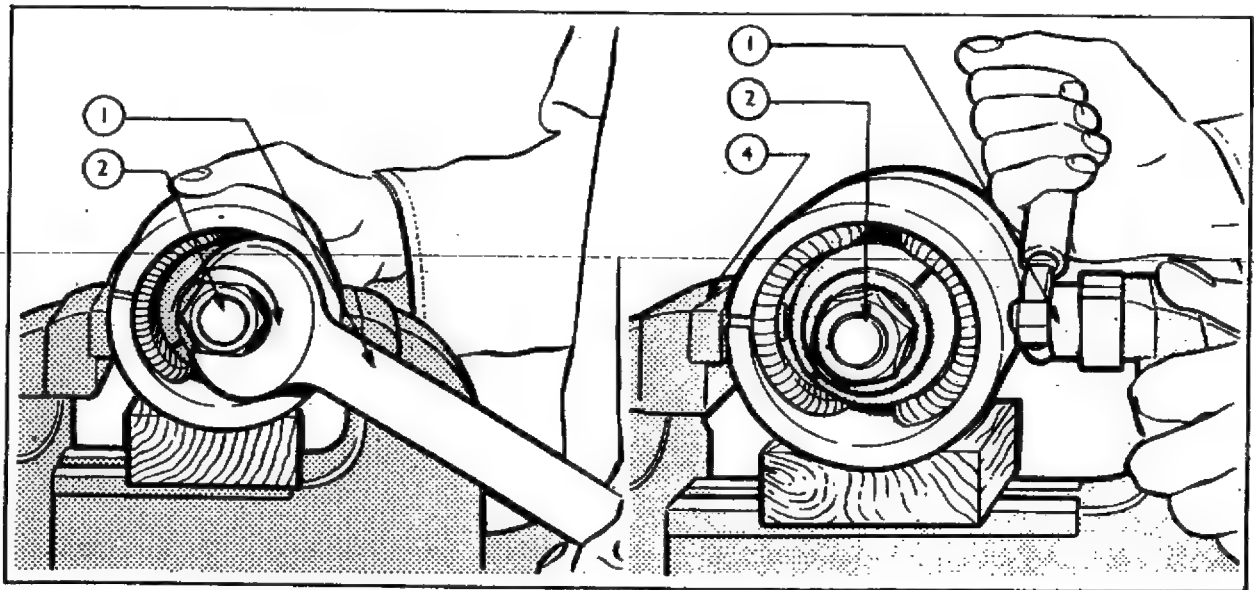

Fig. 7—Removing the Generator Field Coils
4. Locate the pole piece expander Tool No. CP.9509 inside the yoke and securely tighten the end nut—see Fig. 7.
5. Mount the yoke and pole piece screwdriver in a vice, as shown in Fig. 7, the pole piece screws can then be slackened off and finally removed.
10. Mount the yoke and pole piece screwdriver in a vice, as shown in Fig. 7, and tighten the screws fully.